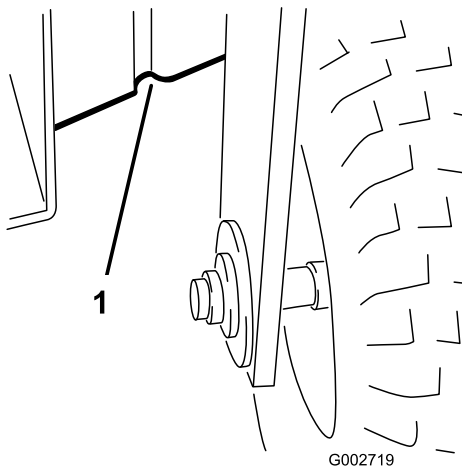

Figure 21
- Front-under the frame behind the front wheel (Figure 21).